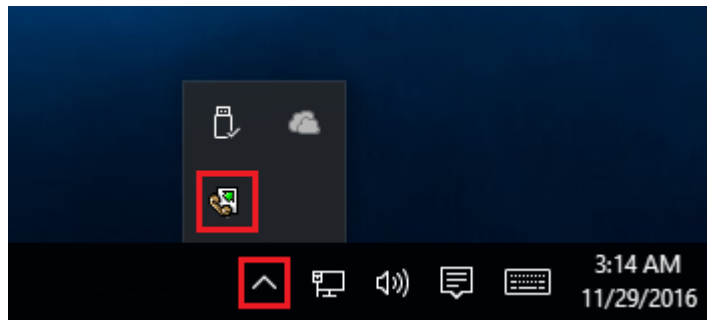

Fig. 6.1.2 Sys tray - panel near clock
- **Start in minimized state** - at start Advanced OPC Data Logger will automatically put its icon on panel near clock (SysTray fig. 6.1.2);